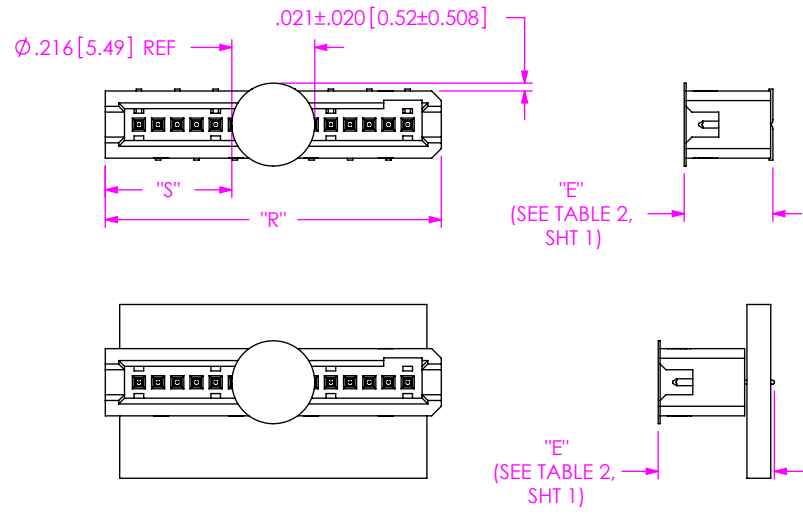

FIG 3
-K: POLYIMIDE FILM (SEE FIG 3, SHT 2) (USE K-DOT-.217-.313-.005)